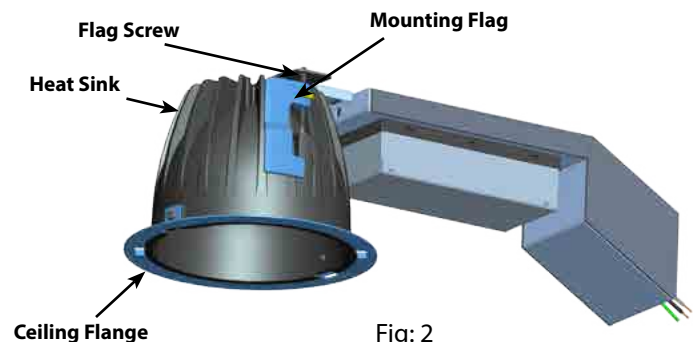

Fig: 2
5. For the Wallwash Model, orient the fixture such that the **Reflector** is in correct orientation. Wall Wash fixtures are provided with swivel arm for maximum adjustability in all construction situations. Look for 'Towards the Wall' label on the fixture. (Fig. 2)